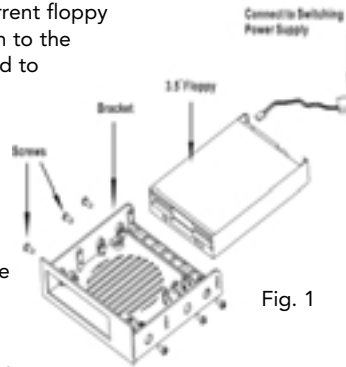

Fig. 1
6. If you need to mount the floppy drive into a 5.25-inch drive bay, mount the floppy drive into the 5.25-inch drive bay adapter as shown in Fig. 1.
7. Connect the power cable as shown in Fig. 1.